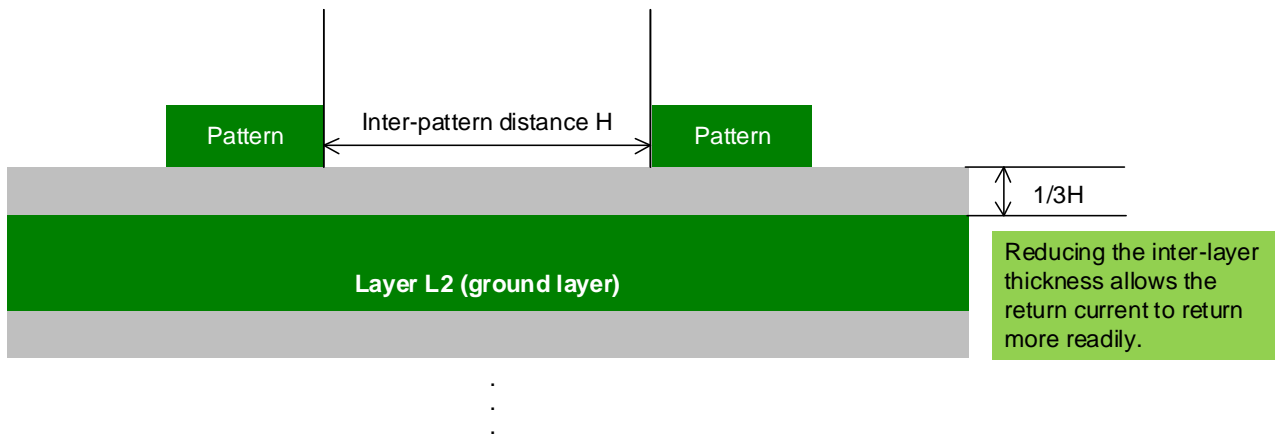

Figure 3 Return Current (Inter-layer Distance)
7. Design the inter-layer thicknesses, with the exception of that between layers L3 and L4, to be one-third the distance (H) between patterns running alongside one another (i.e., to be $1/3H$) in order to allow return currents to readily return. (See Figure 3.) In addition, the inter-layer thickness affects impedance, so if there are signals subject to impedance control, take this into account when designing the board thicknesses. In the case of the Ethernet communication control board, based on impedance control and the board thicknesses that were possible for the board manufacturer that was asked to do the design, an inter-layer thickness of 0.1 mm was used, except for between layers L3 and L4.